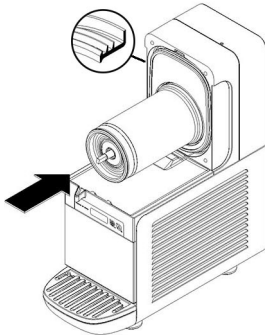

**figure 13**
**2** Lubricate the tap piston, the external scraper and the hexagonal coupling (at points A, B and C in figure 13) using only the grease provided or other **food grade** grease.